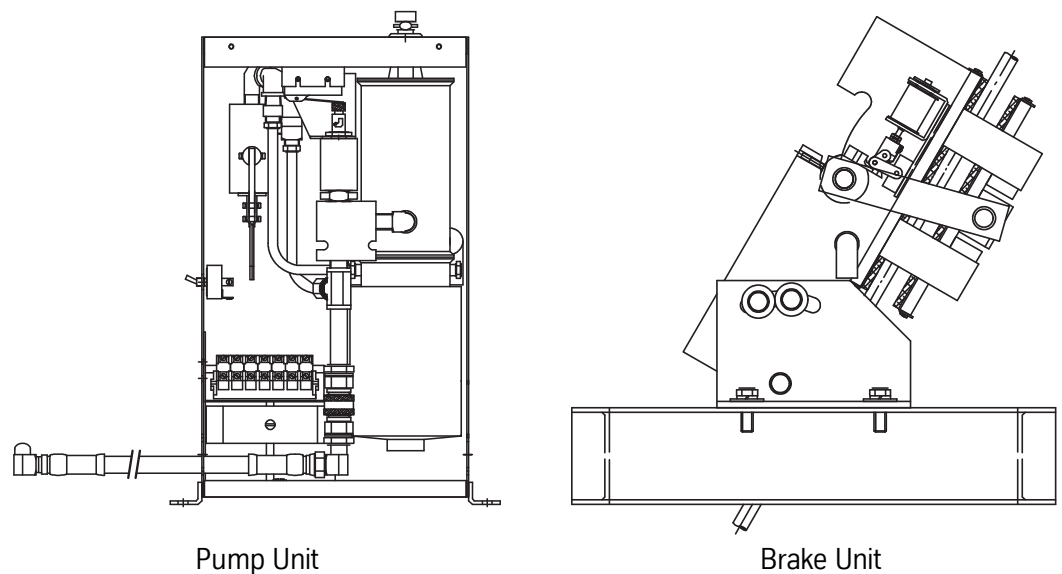

Figure 1 - Rope Gripper Components
- Manufactured by Hollister-Whitney (HW).
- Consists of two components. See Figure 1.